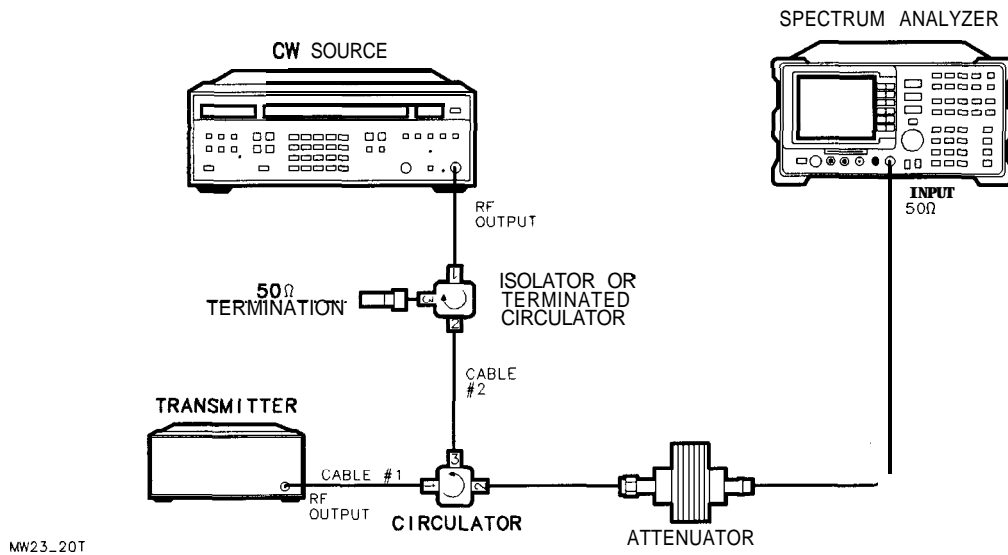

Figure 3-25. Test Setup for Intermodulation Attenuation - TX Band
9. Read the text and make the test setup connections described in the displayed text. Refer to Figure 3-25 for the test setup.